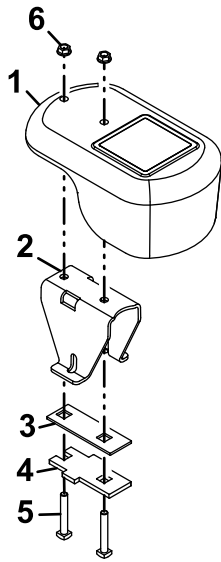

Figure 7
1. Use the bolts (3/8 x 2-1/2 inches) nuts (3/8 inch) to secure the plates to the weight (Figure 7).